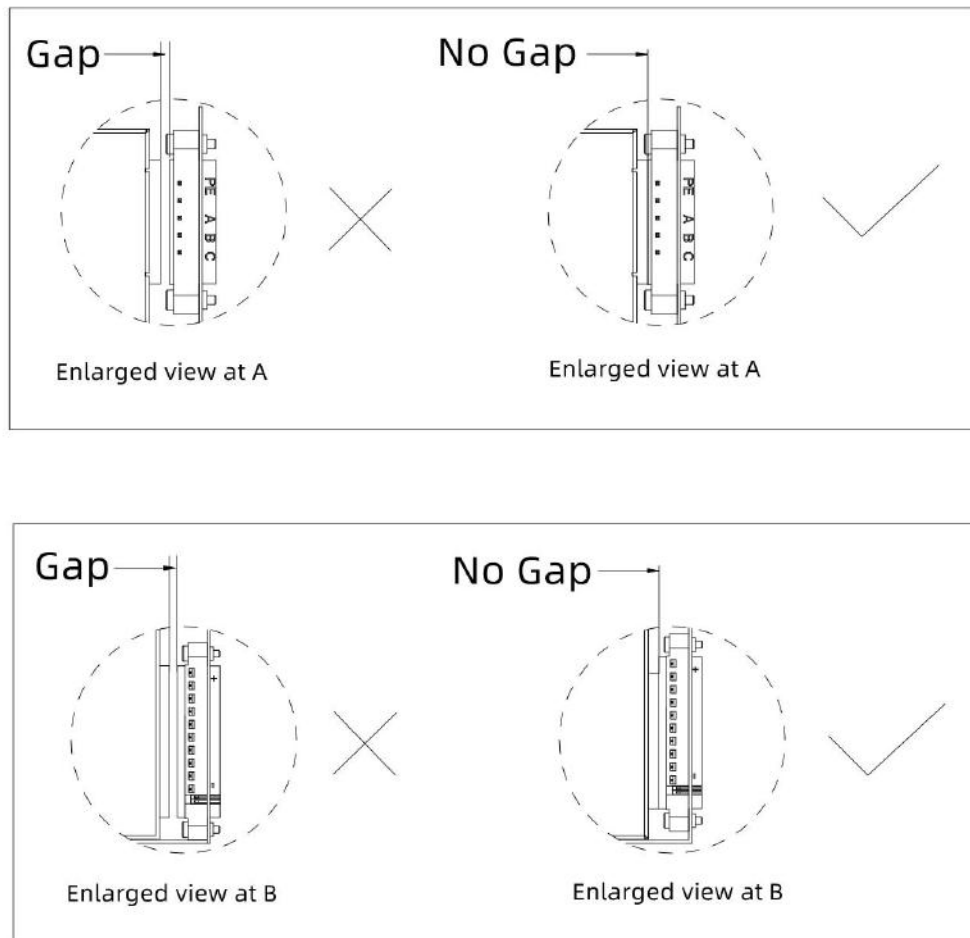

Figure 2-6 Assembly instruction diagram of module terminal and system terminals
2)After the module is assembled on the pile, it is required that the module terminals and the system terminals are in close contact with no gaps, so as to ensure reliable plug-in contact between the system terminals and the module terminals, as shown in Figure 2-6.